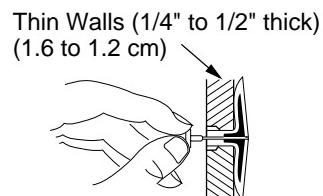

Figure 8 - Popping Open Anchor Wings For Thin Walls
4. For thin walls [1/2" (1.27 cm) or less], insert red key into wall anchor. Push red key to "pop" open anchor wings (see Figure 8). **IMPORTANT:** Do not hammer key! For thick walls [over 1/2" (1.27 cm) thick] or solid walls, do not pop open wings.